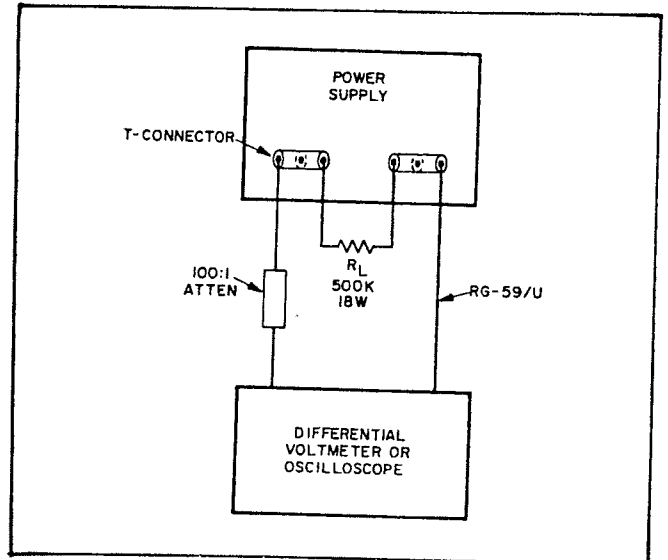

Figure 5-3. Line and Load Regulation, Test Setup
- a. Connect the differential voltmeter, load resistor, and the attenuator to the power supply as illustrated in Figure 5-3. Load resistance is 500K ohms, 18 watts.
- a. Connect differential voltmeter, load resistor and attenuator to the power supply as illustrated in Figure 5-3.
- b. Connect differential voltmeter, load resistor, and attenuator as illustrated in Figure 5-3.